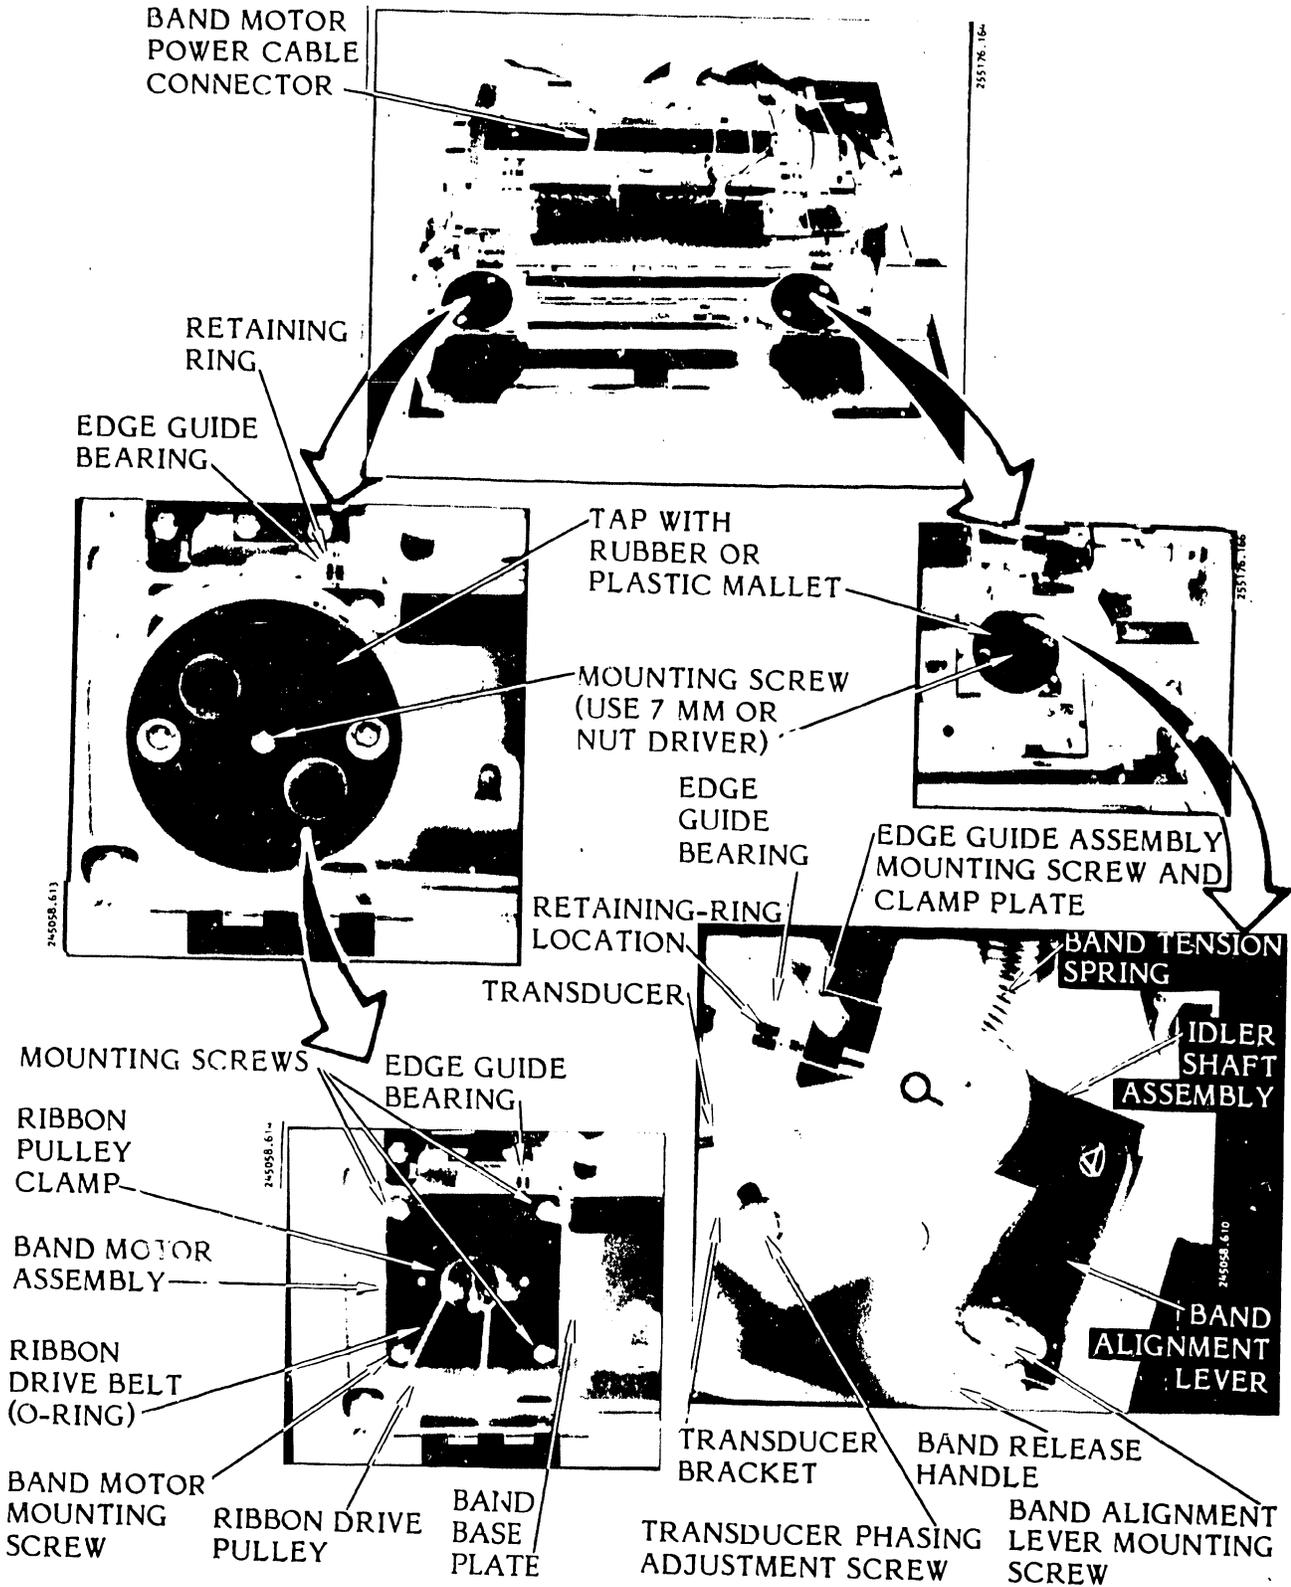

Figure 3-75. Band and Idler Pulley/Driver (O-Ring System) Removal/Installation
**3.7.3 Band and Idler Pulley/Driver (O-Ring System) Removal/Installation (Figure 3-75)**
- d. Use a 7 mm nut driver to remove the driver pulley hex head mounting screw (see figure 3-75).